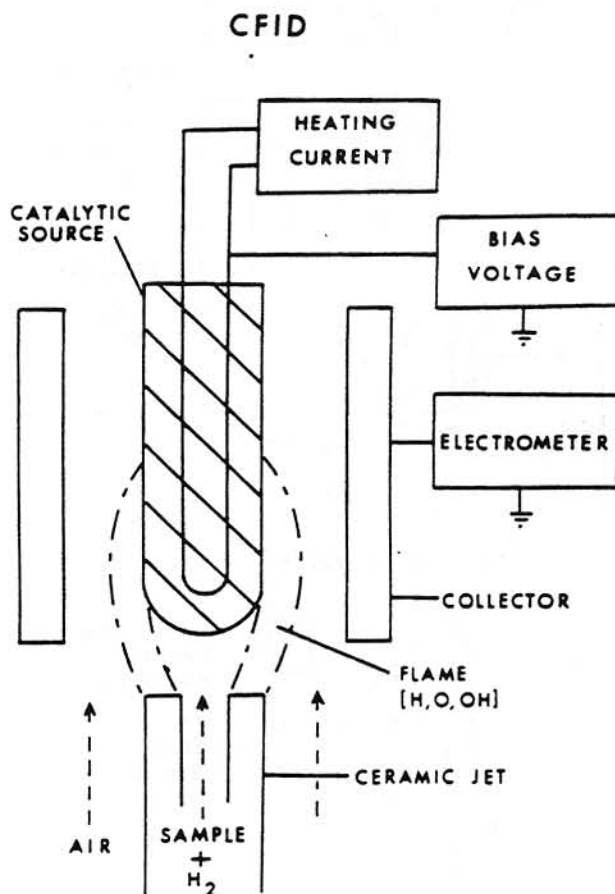

Figure 3. Schematic illustration of the detection configuration for the catalytic flame ionization detector (CFID) mode of response.
Figure 3 depicts a mode of response achieved when the H_2 flow to the detector is sufficient to produce a true self-sustaining flame burning at the jet structure. This mode of operation has been designated (5) catalytic flame ionization detection (CFID) because of its close similarity to a conventional FID. The CFID is essentially an FID which has been modified by inserting an electrically-heated catalytic source comprised of a Ni-impregnated ceramic into the center of the active flame region. In this detection mode, the catalytic source structure serves the three-fold function of flame ignitor, flame polarizer, and catalytic combustion modifier/thermionic surface ionizer. In the CFID, two types of ionization processes are active: gas phase ioniza-